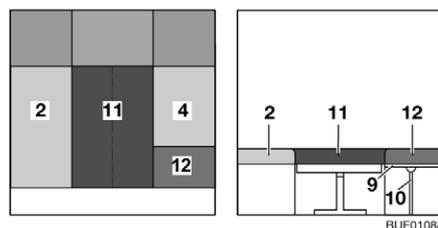

Fig. 97 After conversion
- Place the additional cushion (Fig. 97,11) between the seat cushions (Fig. 97,2 and 4).
- Lay the additional cushion (Fig. 97,12) on the bedding box extension (Fig. 97,9).